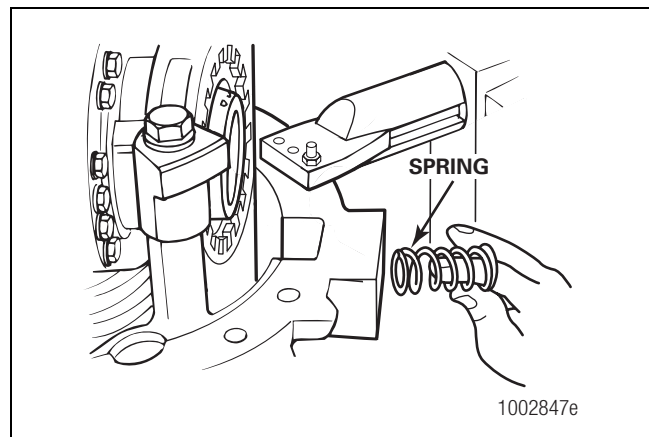

Figure 12
- Remove the spring. Figure 12.